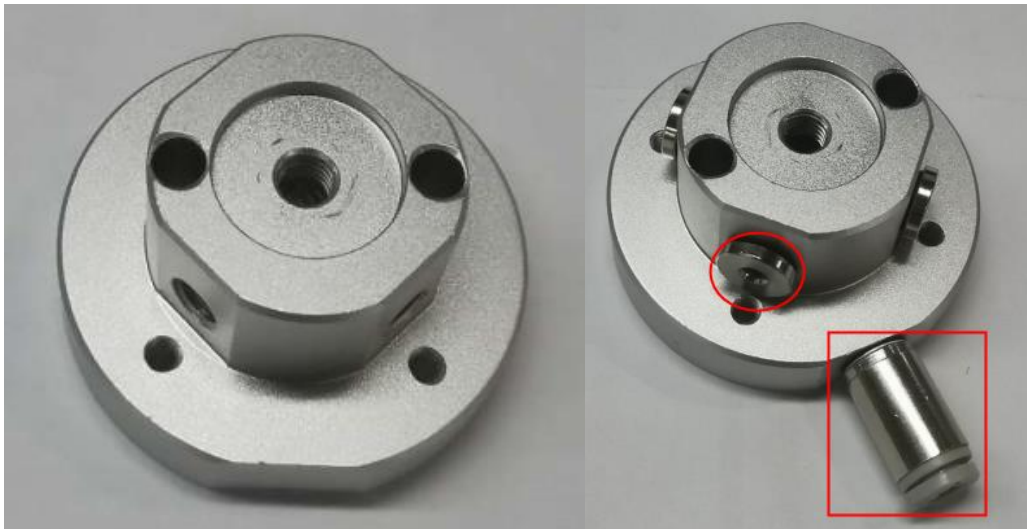

Figure 2.11 Install four plugs and gas connector
Step 1 Install four plugs to the four holes of connection block, and install one gas connector to the hole on the side of connection block, as shown in Figure 2.11.